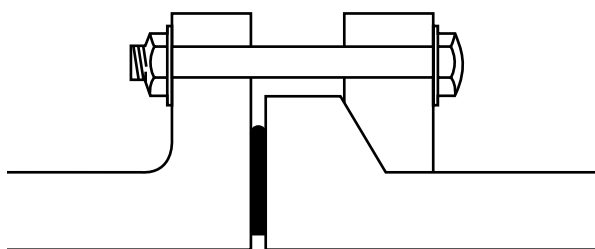

Figure 3-16 Loose ring flange with O-ring profile gasket with steel ring
- 2 an "O"-ring profile gasket with steel ring for flat flange surfaces (no groove required) as shown in **Figure 3-16**.